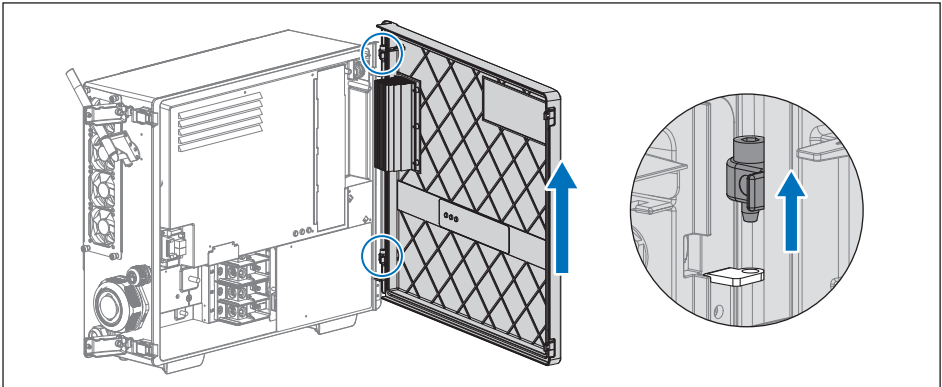

Figure 5-3: Remove the door
4. The inverter door can be removed for wider working space during installation or maintenance as **Figure 5-3**.